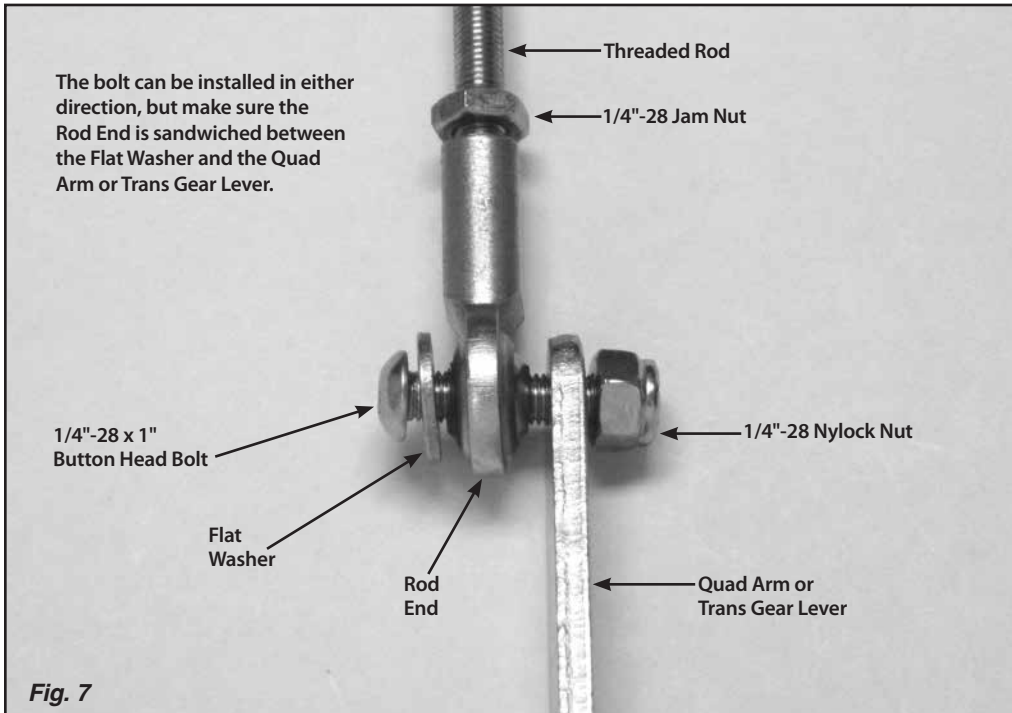
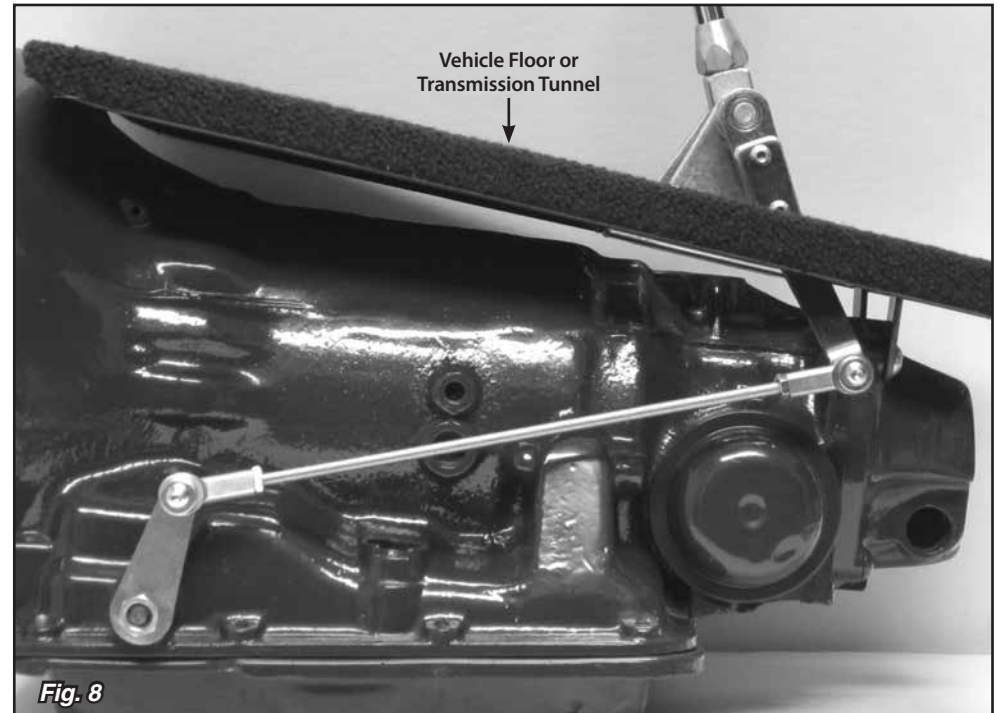

Fig. 7
Fig. 8
Step 11: Make sure that two 1/4"-28 jam nuts are installed on the threaded rod, one at each end. Install a rod end onto each end of the threaded rod. Position the rod ends on the inside or outside of the quad arm and trans gear lever so that the threaded rod is as straight as possible. Attach the threaded rod assembly to the quad arm and trans gear lever using the 1/4"-28 x 1" button head bolts, flat washers, and nylock nuts as shown in **Fig. 7**. The button head bolts can be installed from either direction, but make sure the rod ends are sandwiched between the flat washers and the quad arm or trans gear lever. **Fig. 8**